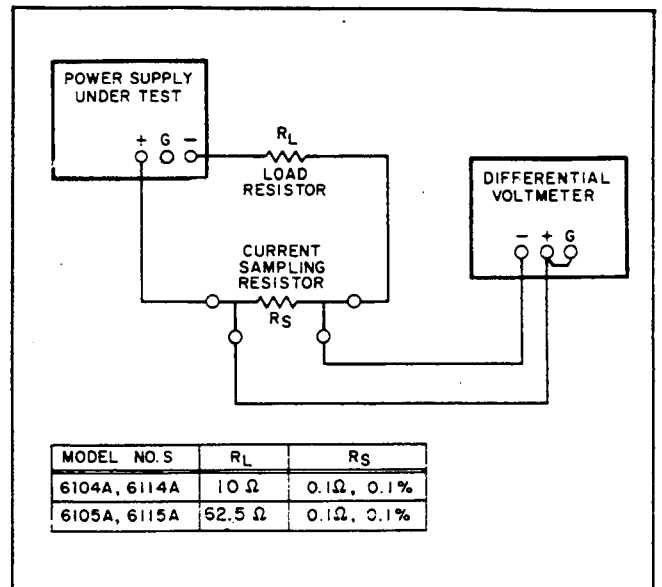

Figure 5-9. Constant Current Load Regulation Test Setup
- Connect test setup shown in Figure 5-9.
- Utilize test setup shown in Figure 5-9.